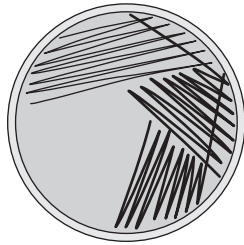

FIG. 2.8.
9. Heat the loop again and repeat the process until all three or four sections of the plate are covered with streak marks (Figs. 2.8 and 2.9). (Professional microbiologists are often able to achieve isolated colonies without flaming between each section. However, until you reach such proficiency, you should flame the loop at least once during this procedure.)